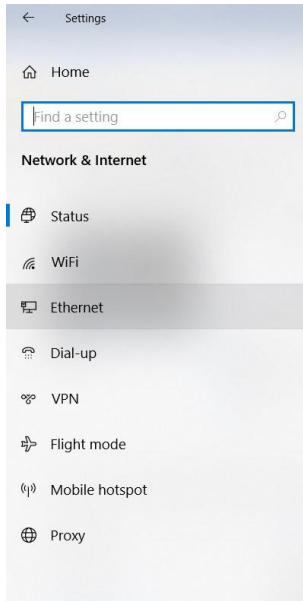

Fig. 10
4. Select Ethernet (Fig.10) and the menu will open.